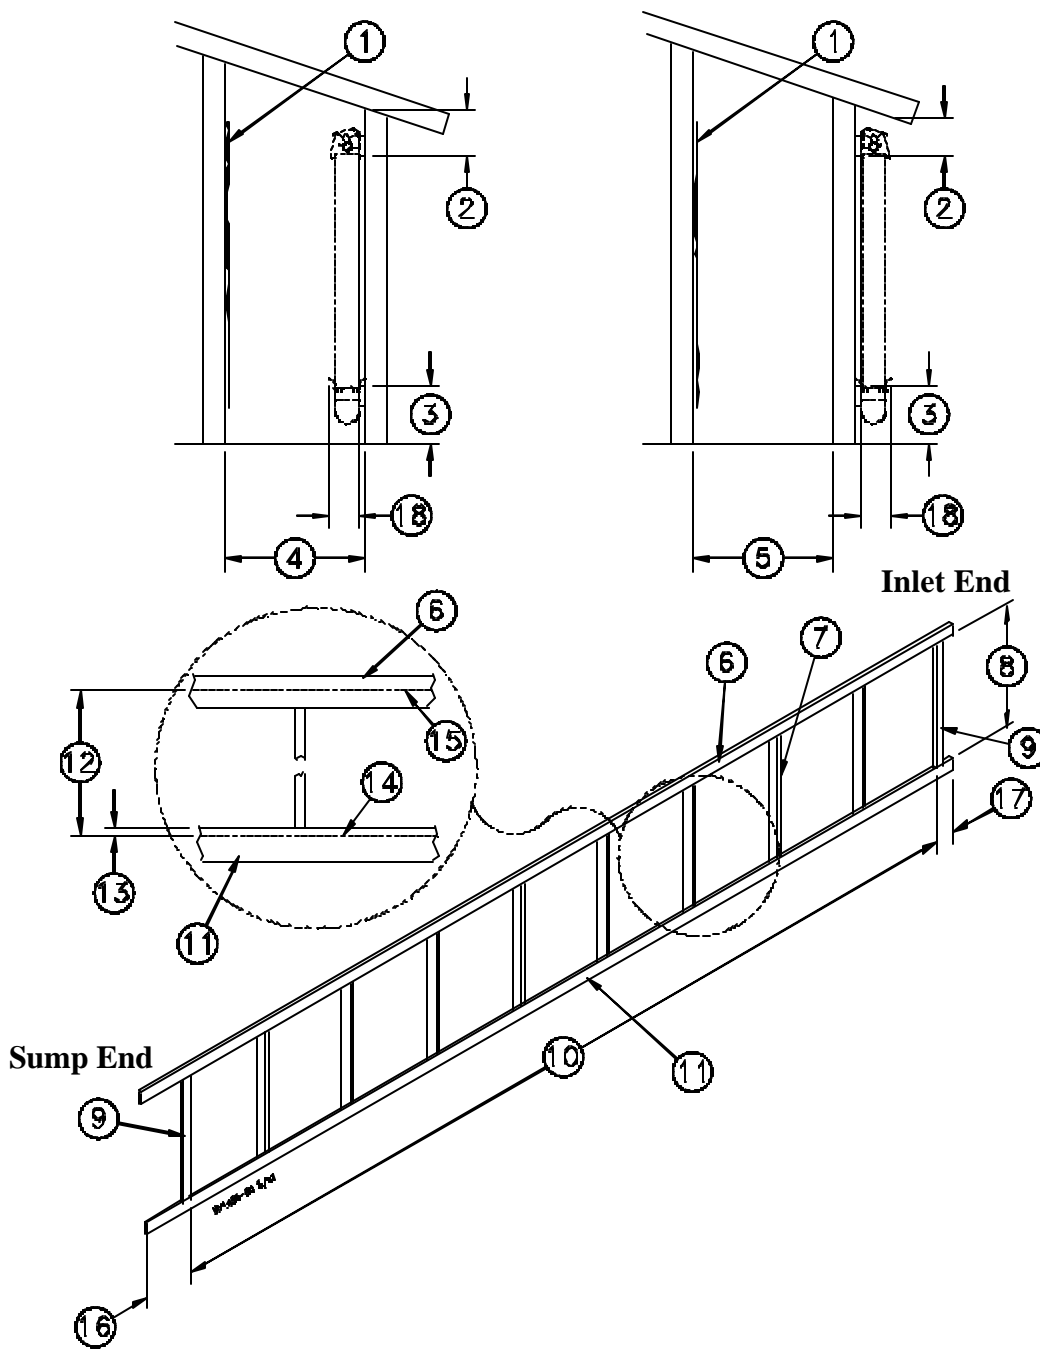

Figure 2. Framing Overview Diagram
Figure 2 shows two options for installing the cooling pad relative to the tunnel curtain and provides the required information for the Evaporative Cooling System opening.
1. Determine the location of the bottom stringer. See **Figure 2**, Item 3.
2. Snap a chalk line on the lower stringer at the locations specified in **Figure 2**, Item 13. This chalk line will determine the location of the lag screws for the Trough Supports.
3. Determine the location of the top stringer. See **Figure 2**, Item 8. The distance between the top and bottom stringers should be approximately 1-1/2" (3.8 cm) less than the height of the Evaporative Cooling Pads.
4. Snap a chalk line on the top stringer at the locations specified in **Figure 2**, Item 12. This chalk line will determine the location of the Splash Plate lower holes.